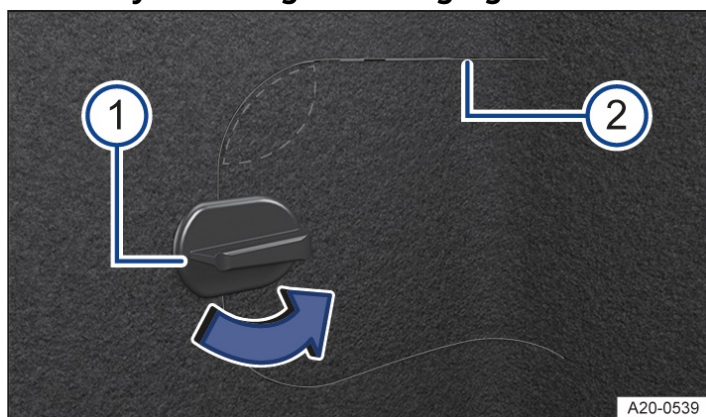

Fig. 1 In the lower right-hand side of the luggage compartment trim: flap for the manual release (illustration).
2. Rotate the flap by 90° in the direction of the arrow → Fig. 1 ①.
3. Press in the area above the catch → Fig. 1 (highlighted area).